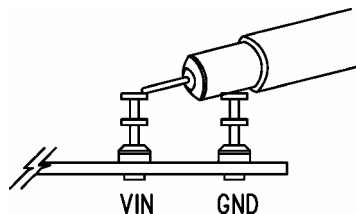

Figure 2. Measuring Input or Output Ripple
7. Monitor the output voltage ripple. Refer to Figure 2 for the proper measurement technique.